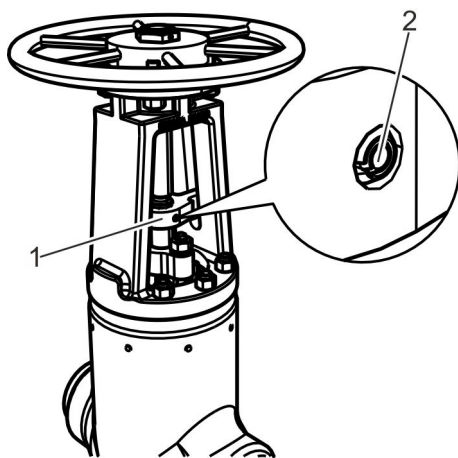

Fig. 24: Fastening the anti-twist device
- 18.** ▶ If the anti-twist device is present: Mount the tension pin (Fig. 24/2).